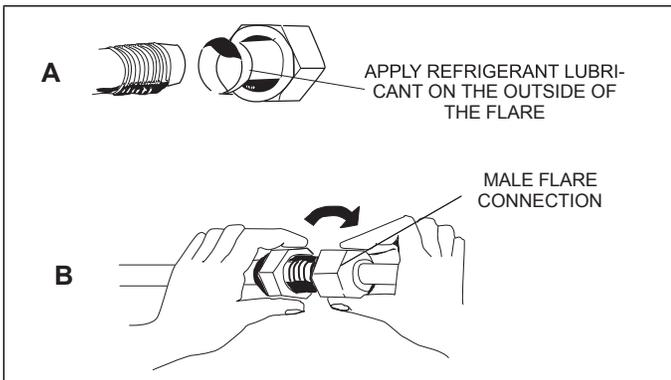

Figure 25. Making Connections
15. Align the threaded connections with the flared refrigerant lines. Tighten the flare nuts slightly at first to obtain a smooth match as illustrated in "Figure 25. Making Connections (Male to Female Connection)".